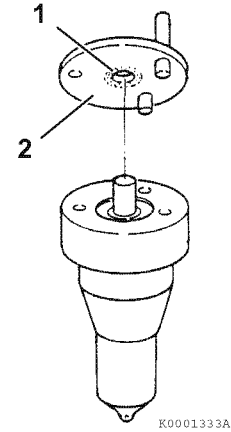

Figure 7-33
6. Inspect the sealing surfaces (2, **Figure 7-33**) between the valve stop spacer and nozzle body for nicks or scratches. Check the contact area between the valve stop spacer and the nozzle valve (1, **Figure 7-33**) for scoring or pitting. Use a magnifying glass to inspect.